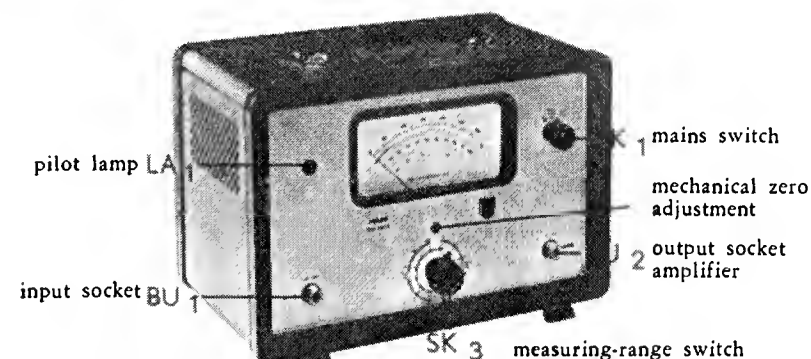

Fig. 2. Front view
5. Check whether the pointer of the meter points to "0". If necessary, the pointer can be set at "0" by means of the black screw at the front (mechanical zero adjustment, see Fig.2).